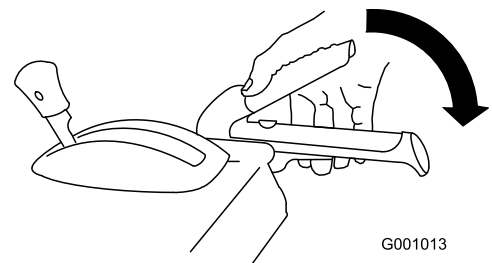

Figure 39
1. To engage the auger/ impeller drive, squeeze the right hand (auger/ impeller) lever to the handgrip (Figure 39).